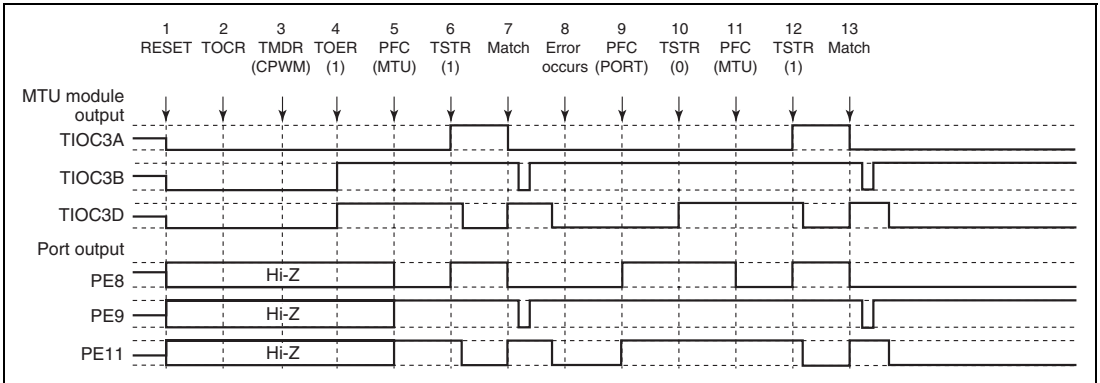

Figure 8.106 Error Occurrence in Complementary PWM Mode, Recovery in Complementary PWM Mode
(23) Operation when Error Occurs during Complementary PWM Mode Operation, and Operation is Restarted in Complementary PWM Mode: Figure 8.106 shows an explanatory diagram of the case where an error occurs in complementary PWM mode and operation is restarted in complementary PWM mode after re-setting (when operation is restarted using the cycle and duty cycle settings at the time the counter was stopped).